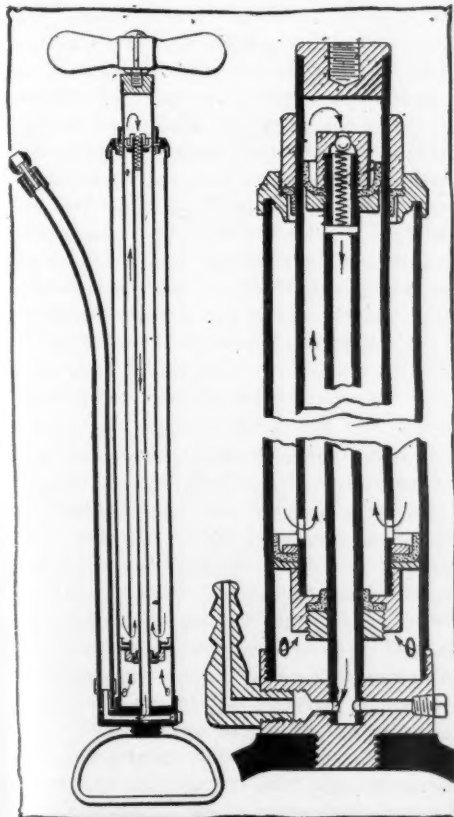

FIG. 12—IMPERIAL-WIXON PUMP
**Imperial Brass Mfg. Co.**—In addition to the line of articles in drawn, pressed and cast brass, bronze, copper and alloys of these metals quite too long to fully enumerate that are made by this Chicago concern, it recently has brought out a double-cylinder, double-action compound air pump for inflating motor car tires, and a new type of pipe union known as the Imperial compression coupling. The line is essentially the same as last year, the principal articles being compound foot and lever pumps, dash, hand pressure and oil pumps, centrifugal circulating pumps, centrifugal gasoline strainers, pressure regulators, auxiliary gasoline tanks, combined priming cups and relief cocks, pipe unions and connections, lamp brackets, robe and foot rails, windshield fittings, name plates, electric lamps, hood fasteners, grease cups, and so on. The principle of the double-cylinder, double-action compound air pump, which is known as the Imperial-Wixon, is shown in the sectional drawings, Fig. 12. On the up stroke, the air from the outer cylinder is forced into the inner cylinder and this makes the first compression about 30 pounds. On the down stroke this 30-pound pressure is compounded to a very high pressure, which is conducted by an inside tube and rubber hose to the tire. The cylinders are heavy-gauged brass tubing, and the rubber hose is of a high-grade pneumatic tool tubing, with a well-known Imperial hose connection at the end, which threads over the tire nipple. The heavy black lines in the cut indicate the leather plungers used as packing. The Imperial